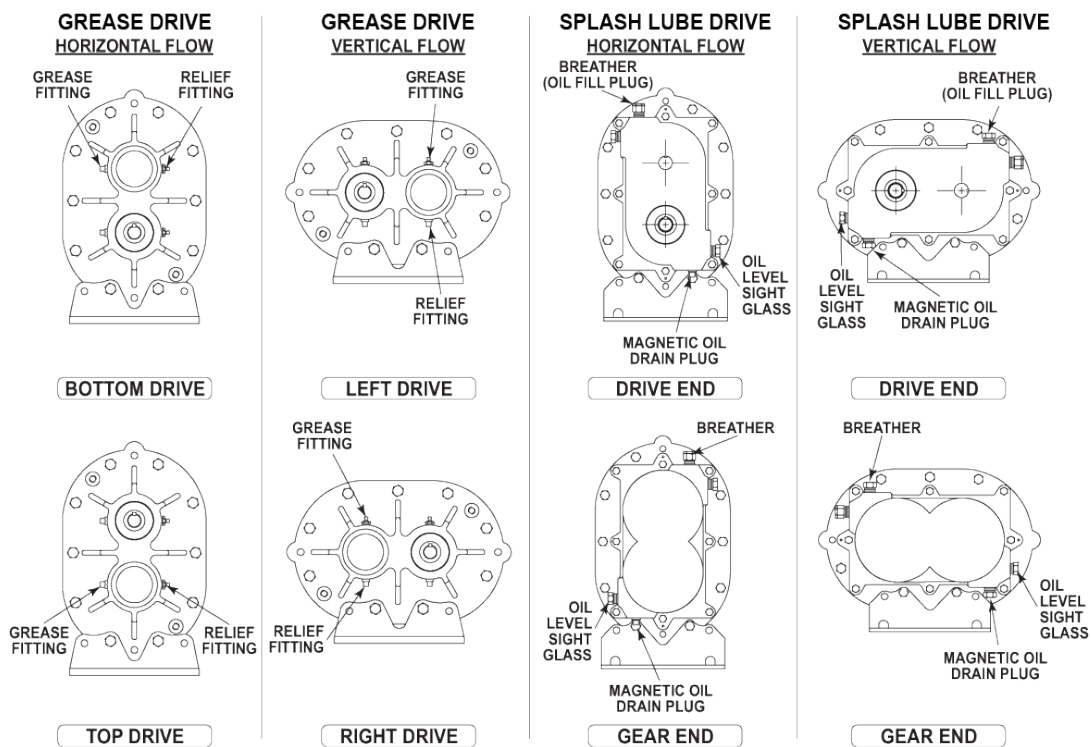

Figure 5-3 – Location of Oil Fill, Drain and Level Gauges on CP Series Blowers
Add oil to the blower in the quantity listed in *Table 4-1 on page 8*. Make sure oil level is maintained within the notched area of the sight glass. See *Figure 5-3*. Lower drive blowers have “bull’s eye” type oil level gauges. Maintain oil levels at the center of the glass.
Most CP Series blowers are shipped from the factory in a left hand drive, vertical flow configuration. If drive shaft location is changed, the oil level plugs, sight glasses and breathers must be relocated to proper positions, as shown in **Figure 5-3**. Failure to change plug location will result in blower failure and void the product warranty.
See **Figure 5-3**. See **Recommended Lubricants for Blowers and Vacuum Boosters on page 34** for suggested lubricants and grease.
**NOTE:** See *Figure 5-3* for locations of grease fittings and grease reliefs for horizontal and vertical flow blowers.